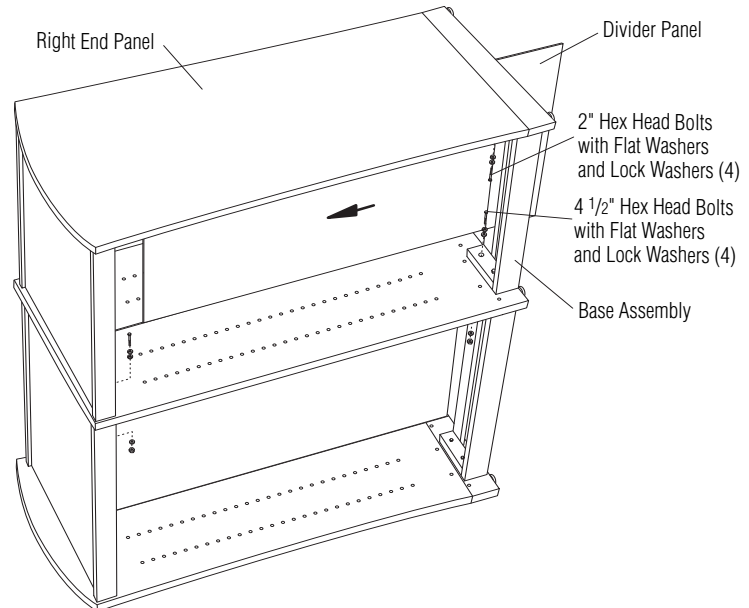

Figure 6
7. Position the base assemblies for the adder unit by aligning the holes with the holes in the adder panel. Insert four 4 1/2" hex head bolts with a lock washer and a flat washer from the inside of the base assembly through the adder panel and previously installed base assembly (Figure 6). Tighten.